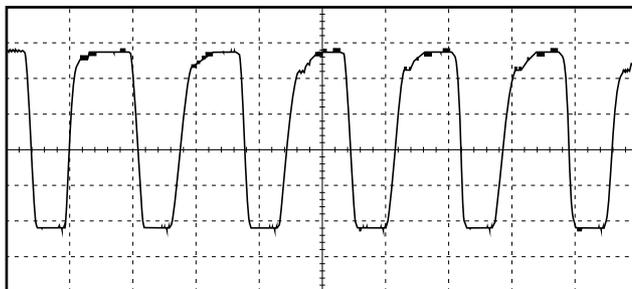

Figure 8. IR link.
- 17 Set the test point switch on the selector box to **TPIRDET** and check that the signal is as in figure 8. Amplitude > 2,5 Vp-p.